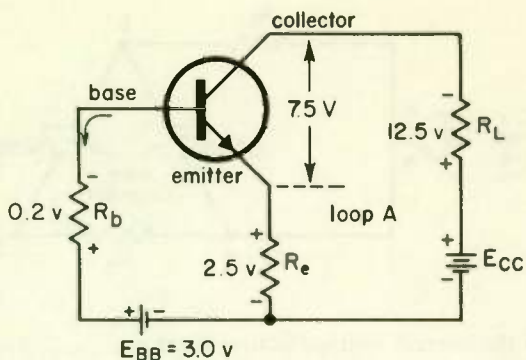

Fig. 25
14. The voltage of the battery E_{cc} in Fig. 25 is _____ volts.
15. If you connect a voltmeter between base and emitter leads in Fig. 25, it will read _____ volts.
16. If you connect a voltmeter between collector and base leads in Fig. 25, it will read _____ volts.